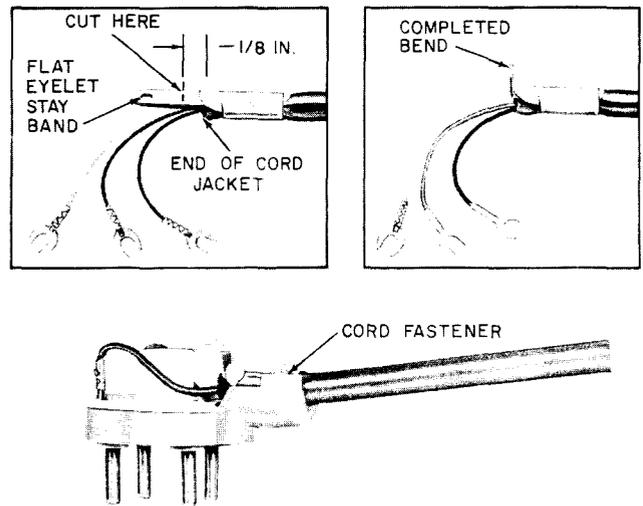
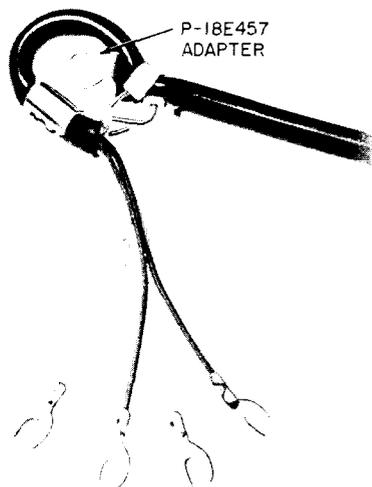

Fig. 2—Connecting Current Model D3BU or D4BP Cord To Early Model 505A Plug
Fig. 1—D4BP Cord With Adapter
2.11 The early D3BU or D4BP mounting cord is equipped with a P-18E457 adapter which is intended for use as a universal fastener. Fig. 1 through 7 show some of the suggested uses of these fasteners. The current D3BU or D4BP cord is equipped with a flat eyelet stayband at the connecting block end (Fig. 2).